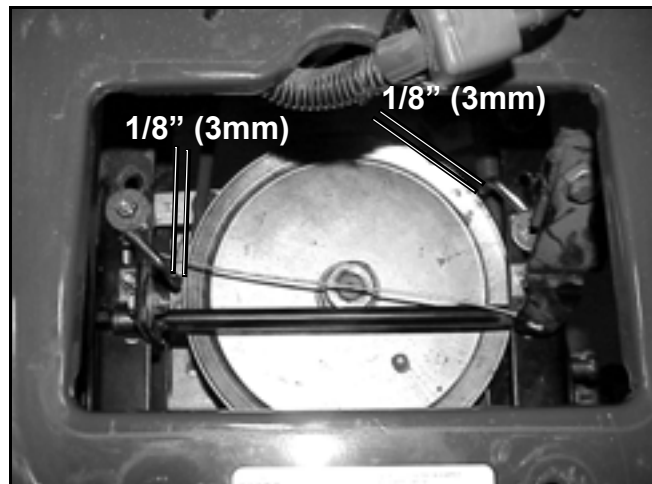
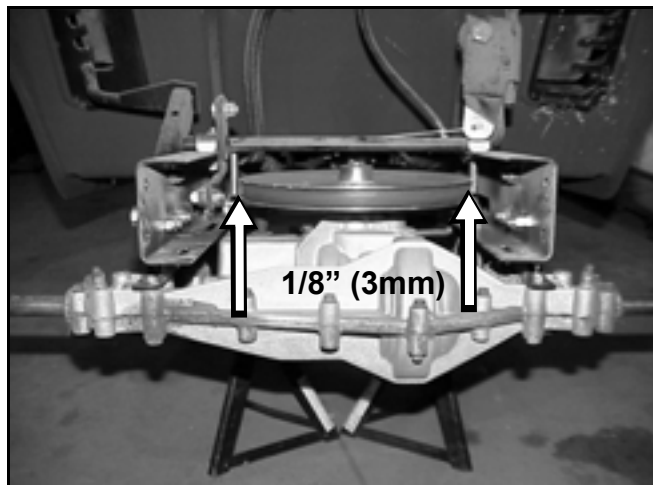

Figure 21
Figure 33
6. Install the right and left belt guides and adjust so they are within 1/8" (3mm) of the transaxle pulley and drive belt (Figure 21). Note direction of belt guide installation, right hand points forward, left hand points rearward.
10. Install the right side belt guide and adjust to within 1/8" (3mm) of the transaxle pulley and belt. Adjust and tighten the left belt guide so it is within 1/8" (3mm) of the transaxle pulley and belt (Figure 21 and Figure 33).